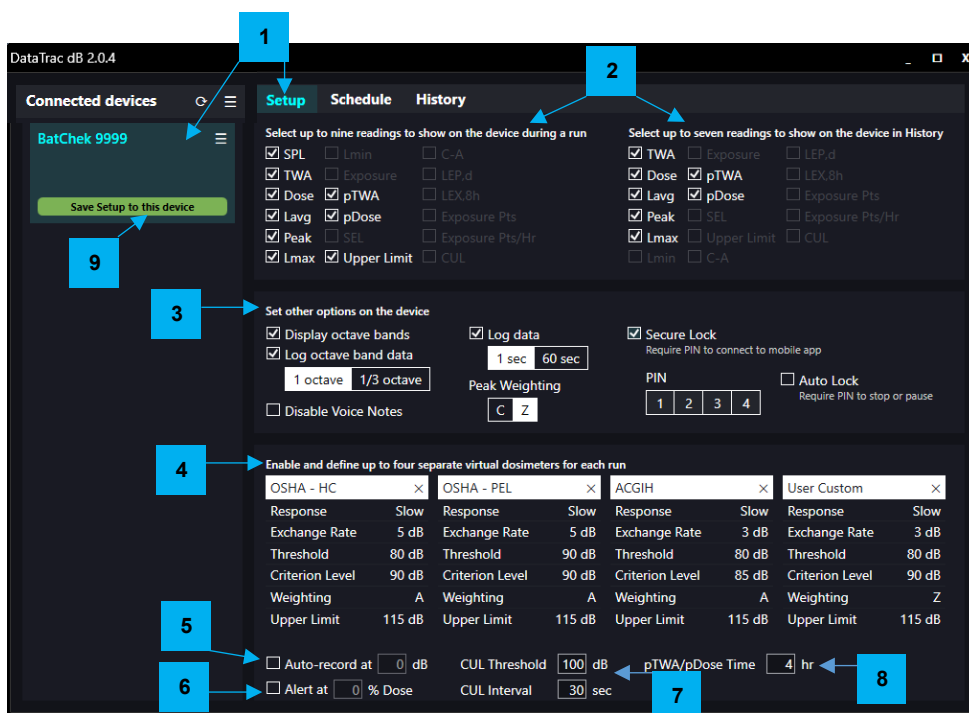

Figure 5. Setup
## Setup — Programming and Uploading Presets (Figure 5)
**Note:** If the maximum number (nine or seven) is selected, the unselected readings will be grayed out as shown in Figure 5.